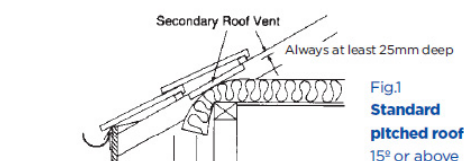

Fig.1
- With a standard pitched roof where the pitch of the roof is 15 degrees or greater and the roof space is an attic or loft a free airflow is required which is equivalent to a continuous 10mm opening (10,000 mm2 per metre run). See Fig.1
- With a standard pitched roof where the pitch of the roof is 15 degrees or greater and the roof space is an attic or loft a ventilation channel at least 25mm deep must be maintained between the roof insulation and the underside of the roof covering. See Fig.1